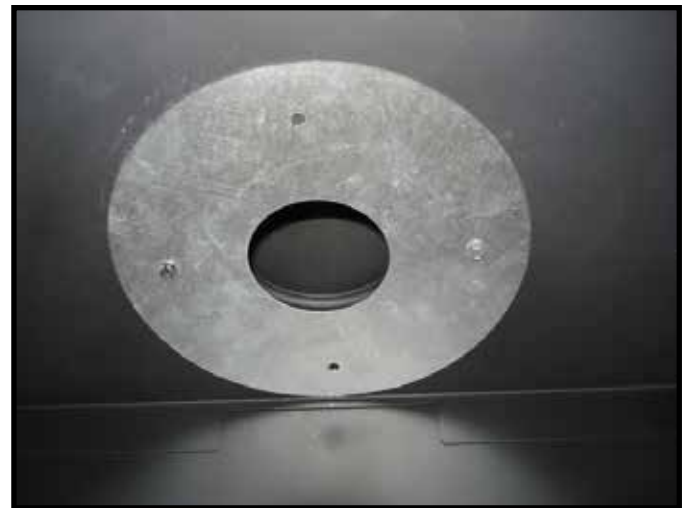

Figure 7.9 Exhaust Restrictor Installation
3. Use two 1/2 in. self-piercing screws to secure vent restrictor to firebox heat shield. See Figure 7.9.